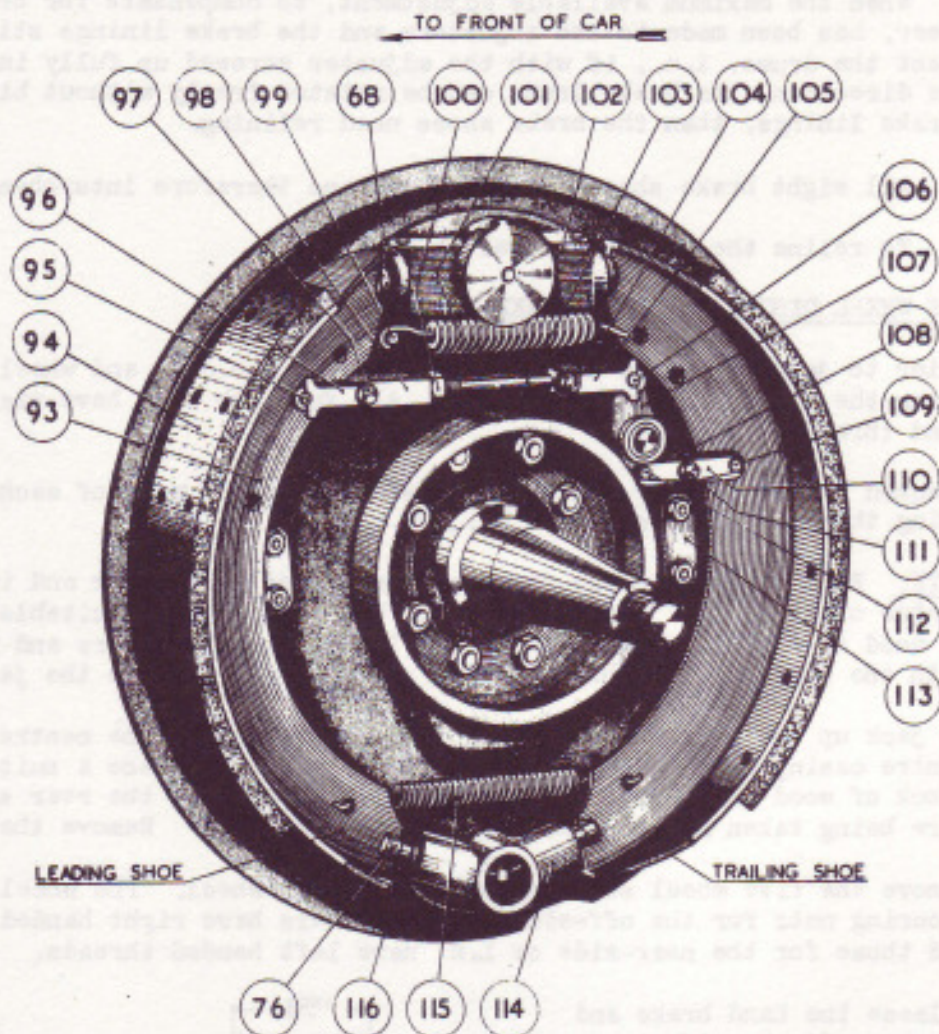

FIG. 9. FRONT BRAKE.
- (i) Remove setscrew and spring washer (111 Fig. 9) and the locking plate (110), the pin (109) can then be removed after easing the load on it caused by the pull-off spring, this will allow the link (108) to fall clear of the shoe.
- (ii) Remove setscrew and spring washer (97), the locking plate (96) and the pin (95), the inter-shoe linkage can now be removed from the fulcrum lever pin.
- (iii) With the aid of a screwdriver resting in a convenient position, prise the leading shoe squarely out of the slot in the plunger (76) of the adjuster unit. This shoe can now be removed completely by disconnecting the pull-off spring (115).